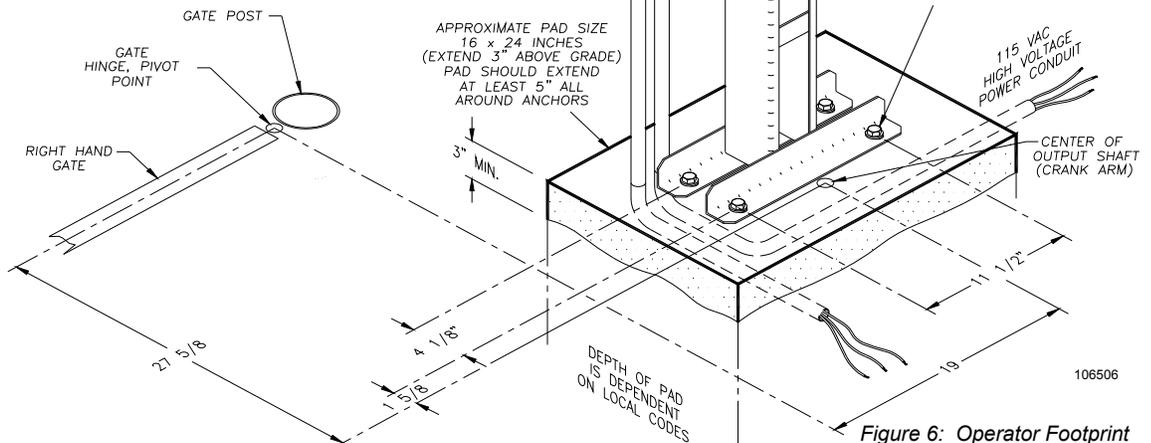

Figure 6: Operator Footprint
If no suitable concrete base exists, a pad must be poured. See Figure 6 for plans for this pad. If the location of the operator is such that vehicles have the potential of hitting the operator, consideration should be given to installation of protective posts in front of the operator.
If a suitable concrete base already exists for mounting the operator it will be necessary to drill mounting holes for the RSX4000 operator. 3/4" mounting holes are located on the front and rear of the optional pedestal. The bolt pattern is shown in Figure 6. The mounting bolts should be 1/2" diameter or larger. "Red head" or wedge anchor concrete bolts are usually satisfactory.
If mounting anchor bolts are to be installed prior to pouring the pad, pay particular attention to the bolt pattern and the location of the mounting holes with respect to the center line of the gate hinge. It is critical for the proper operation of the Arm that the center line of the output shaft of the RSX4000 operator be located exactly as shown on the bolt pattern drawing, Figure 6.
2-5/8" apart and 7/8" down from the top. Each pair of holes is to align with the pre-drilled holes in the chassis mounting angles of the RSX4000. See Figure 6 for locating the post relative to the gate, noting that the center of the output shaft is located 4 5/8" away from the center of the post, or 2 5/8" away from the face of the 4 x 4 post.
The recommended procedure for securing the RSX4000 pedestal to concrete, or fresh concrete pad (for those installations where the anchor bolts were not previously installed) is to locate and drill the hole for the mounting bolt nearest to the gate post first. Locate this hole by referring to the diagram in Figure 6 for the basic dimensions and gate/operator relationship. After placing a bolt in this pedestal mounting hole, mark and drill the remaining three mounting holes. This can be accomplished with the operator in place.
**TO REVIEW:** Make sure the correct position of the pedestal or post from the center line of the gate hinge pivot point to the center line of the RSX4000 output shaft is in accordance with the drawing in Figure 6.